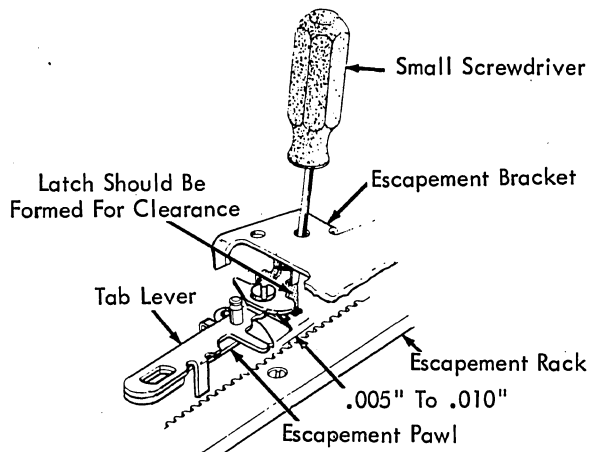

FIGURE 165. Pawl Clearance Adjustment
7. Pawl Clearance (Fig. 165) - The upright lug of the tab latch should be formed forward or back so that the tip of the escapement pawl clears the escapement rack teeth by $.005'' - .010''$ when the tab lever is latched to the rear.